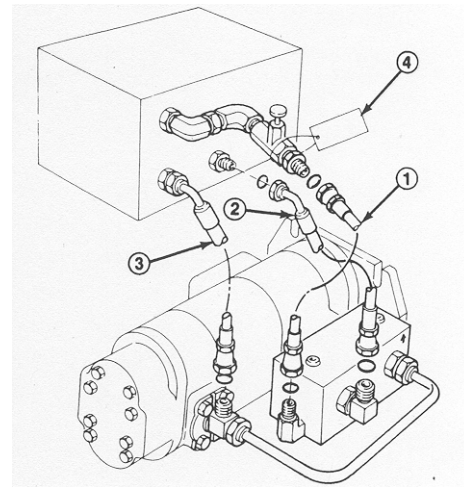

Figure 9
1. Affix the warning decal to one side of the metal tag and the operating decal to the other side. Install the metal tag to the flow combining regulator with a cable tie (Fig. 9).